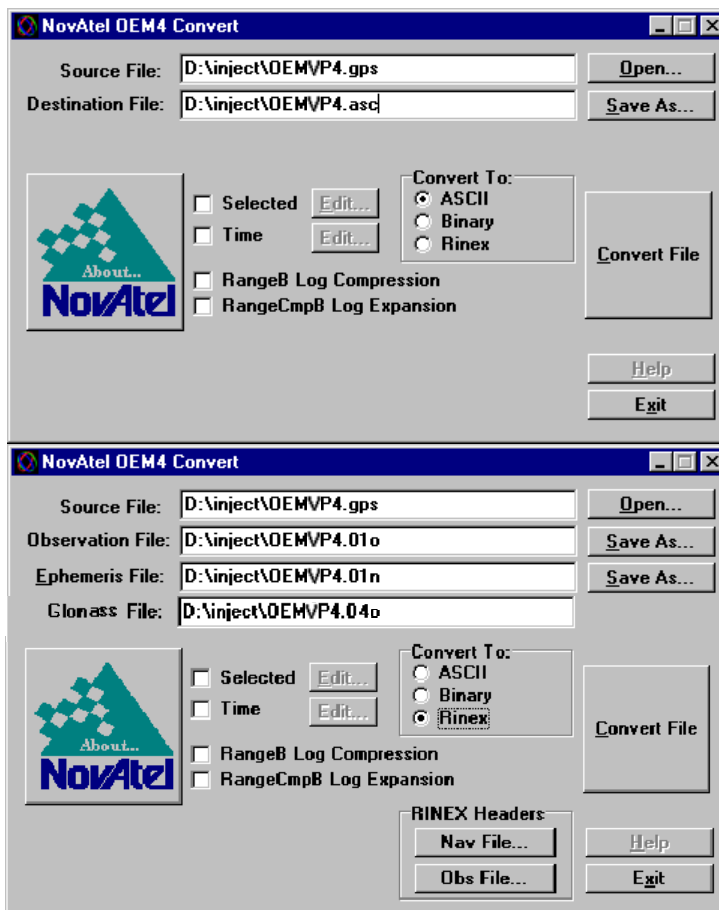

Figure 15: Convert4 Screen Examples
- a. Information from this log overrides data entered in the Receiver Number, Type and Version fields using the OBS file button of the RINEX Headers section. See *Figure 15* on page 67.